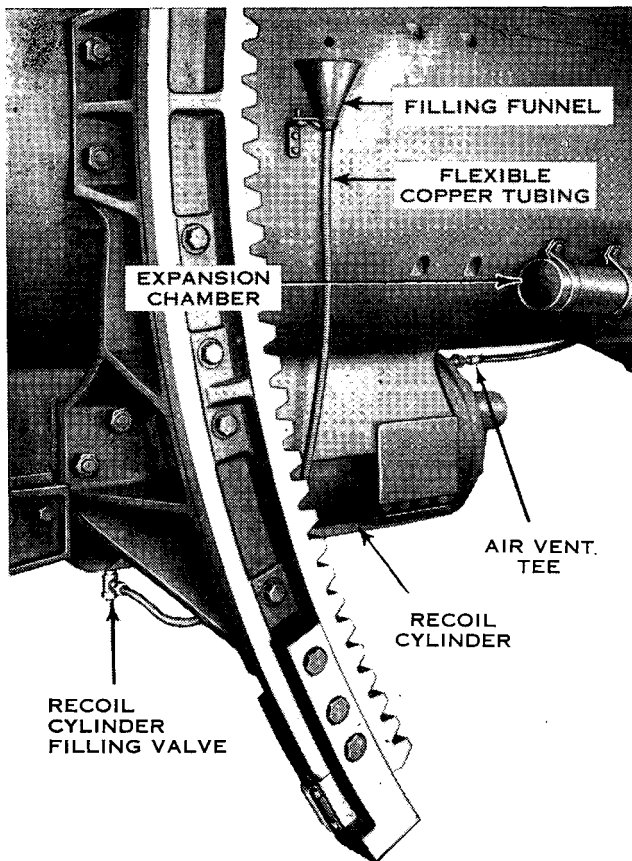

Figure 21. Recoil cylinder filling device.
(1) Set the gun at 0° elevation.
(2) Remove the cap from the filling connection directly under the expansion tank and attach the filling funnel.
(3) Remove the vent plugs from the top of the rear end of the upper and lower recoil cylinders.
(4) Slowly pour the recoil liquid into the funnel until it runs out of the vents in the top of the rear end of each cylinder.
(5) Close the vents with the vent plugs and replace the cap on the filling connection.
(6) Change the filling funnel to the other side of the carriage and fill the two remaining recoil cylinders. The capacity of each long recoil cylinder is 35 gallons and of each short recoil cylinder 17 gallons.
c. To check and fill the recoil cylinder on the M1919M1, M2, M3, M4, and M5 carriages. To check the liquid in the recoil cylinder of the M1919-M1, M2, M3, M4, or M5 carriages (fig. 21), remove the plug cap from the tee in the expansion